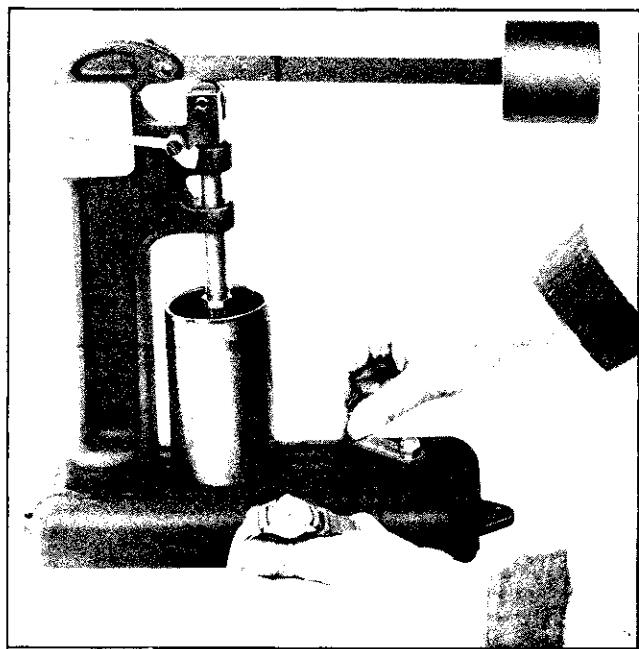

Fig. 6-85 Testing Leak-Down Rate
After all lifters have been assembled, the leak-down rate must be checked before they are installed in the engine. Valve lifter leak-down tester J 5790 (Fig. 6-85) is designed to test leak-down rate of lifters to determine whether or not they are within specified limits. As with previous service operations concerned with lifters, cleanliness is important. The tester cup and ram should be thoroughly cleaned, and testing should be done in an area free of dust and dirt. The testing procedure is described in the following steps:
5. Raise weight arm to allow plunger spring to expand fully; lower arm onto ram and commence turning crank slowly (1 revolution every 2 seconds). Time indicator travel from lower line (first line above set line) to line marked .125 or 1/8", while still rotating cup with crank (Fig. 6-85). Lifter is satisfactory if rate is between 20 and 90 seconds.